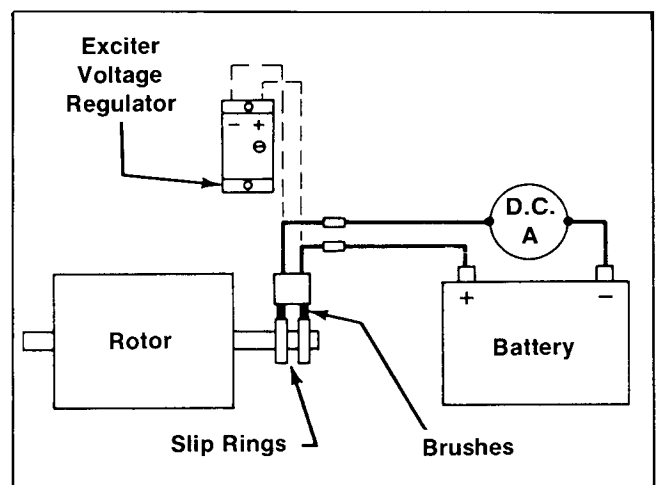

Figure 7-5. Separate Field Excitation
2. Connect brush leads in series with a 12-Volt battery and DC ammeter as shown in Figure 7-5.